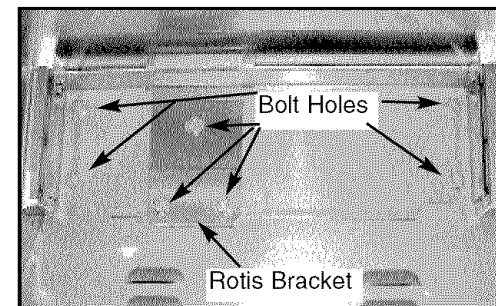

Fig. 14
2. Insert the (7) bolts through the rotis bracket and side shelf bracket into the grill. Be sure the rotis bracket faces forward (See Fig. 14)